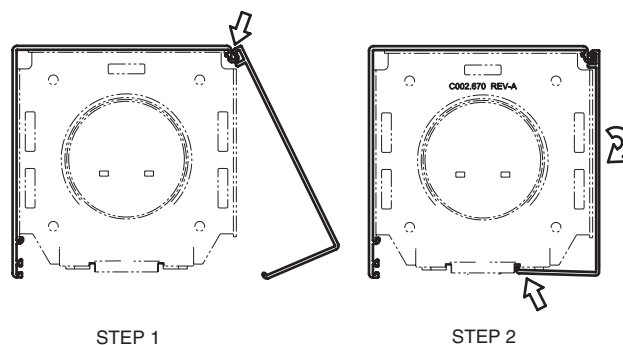

Figure 5
- ⑥ Place groove along top of fascia over endcaps, and snap into place (see Fig. 5).